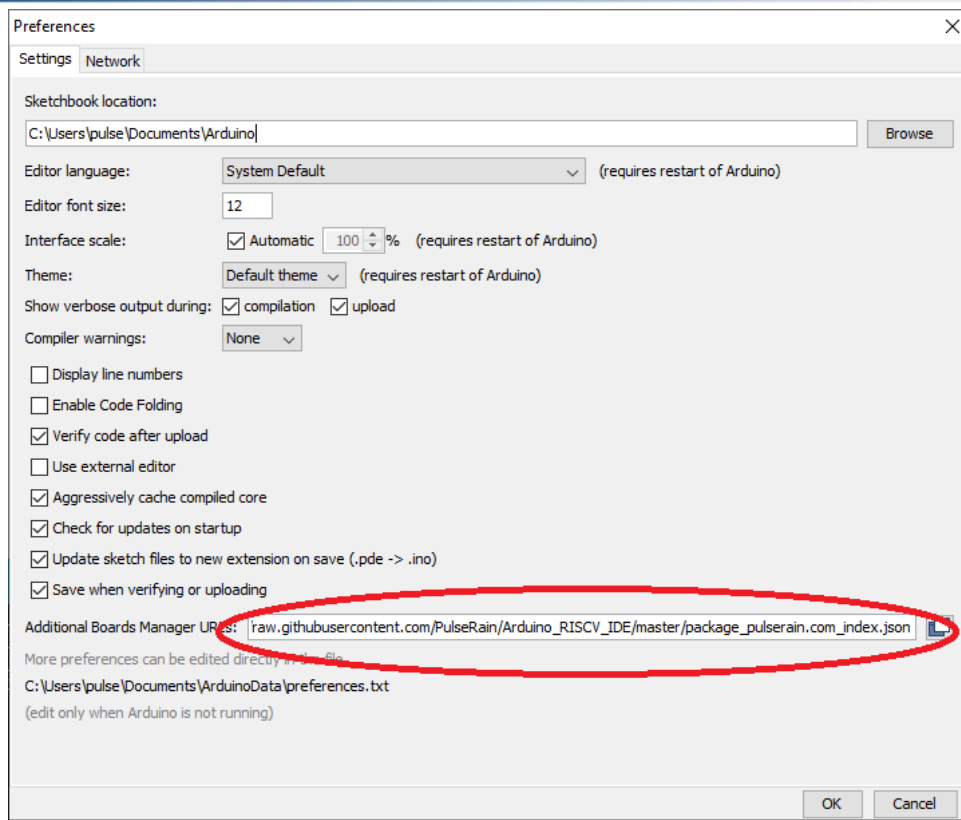

Figure 3-3 Arduino IDE, Preferences Dialogue
- 1) The File / Preferences menu will bring out a dialog like the one shown in Figure 3-3. Please set the "Additional Boards Managers URL" to https://raw.githubusercontent.com/PulseRain/Arduino_RISCV_IDE/master/package_pulserain.com_index.json